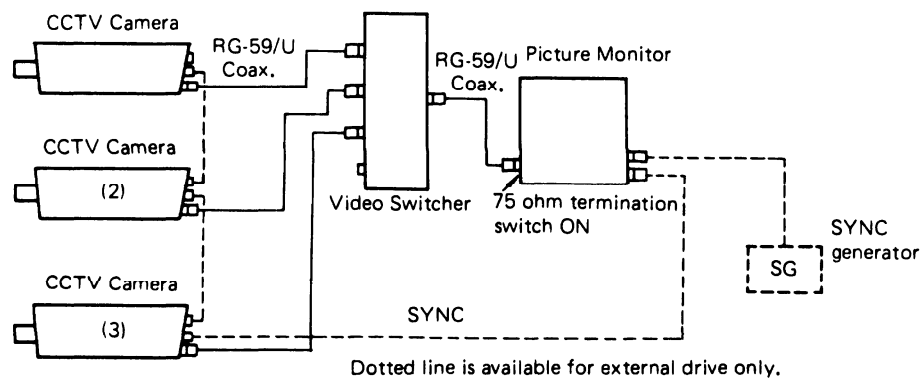

Fig. 2 One monitor and multiple CCTV cameras
Install a monitor and cameras as described in Fig. 2.
When external sync signal is used to synchronize external drive cameras, set the SYNC IN INT-EXT switch to EXT side and terminate the sync signal chain by setting the SYNC IN 75 Ω ON-OFF switch to ON when the chain is ending at the monitor side. When the sync chain is ending at a camera like CCTV Camera (1) in Fig. 2, set the SYNC IN 75 Ω ON-OFF switch to OFF position and terminate it at the camera. Configuration for B. is completed, and see Part 3.